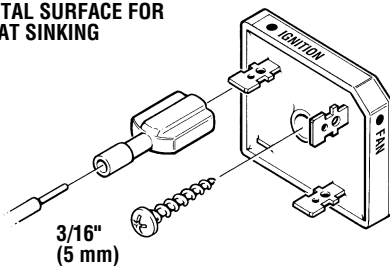

Figure 3-26 Isolator Detail
2. Mount the isolator in the sleeper fan motor area to a solid metal surface with the screw provided. Cut OEM wire to sleeper fan motor and connect isolator in series. Connect using 1/4" spade connectors provided. (Figure 3-26) Wire end from resistor pack connected to isolator terminal marked “IGNITION.” Wire end from sleeper fan motor connected to isolator terminal marked “FAN.”